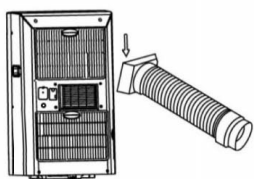

Fig.12
1. Install the flexible Exhaust hose as depicted in Fig.12 & 13.